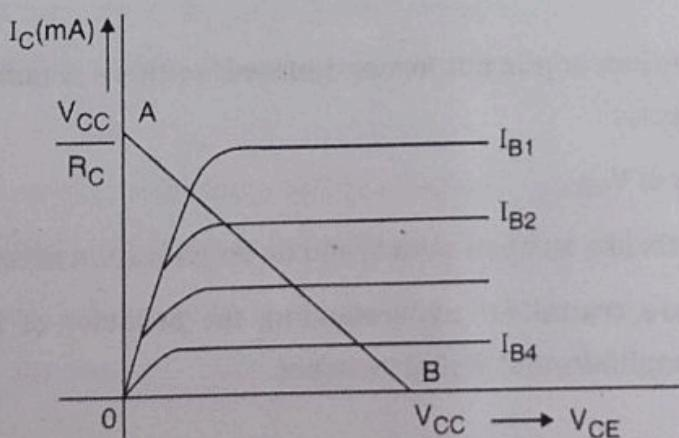

Fig. 4.2.7 : DC load line
- This gives the point A ($OA = V_{CC}/R_C$) on collector current axis shown in the Fig. 4.2.7.